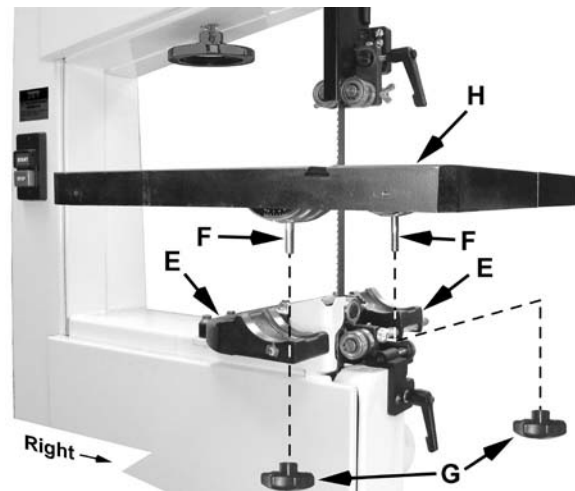

Figure 6
1. Remove the table *insert* (A) and *tapered pin* (B).
2. Slide the table so the *saw blade* (D) passes through the *slot* where the *tapered pin* (B) was located.
3. Rotate the table 90 degrees so that the miter slot (C) is parallel to the blade (D) and to the right of the blade when facing the band saw as viewed in Figure 6.
4. Line up the *table* (H) to the trunnions so that the *bolts* (F) feed through the *support brackets* (E). Secure the table with two *lock knobs* (G). Reinstall the table *insert* (A) and *tapered pin* (B).